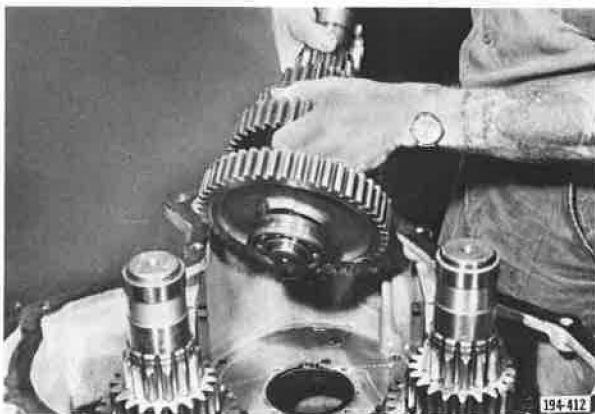

Figure 5-712. Removing Countershaft Assemblies
17. Place transmission front case in a vertical position, and remove three front countershaft assemblies. See **Figure 5-712**.